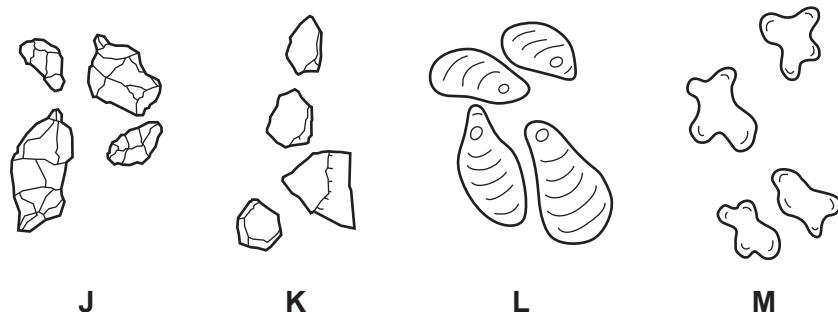

Fig. 2.1
Fig. 2.1 shows some different types of starch grains and patterns on the surface of the starch grains.
- (ii) Use the diagrams in Fig. 2.1 to identify which of the starch grains, **J**, **K**, **L** or **M**, matches most closely the starch grains drawn in (a)(i).